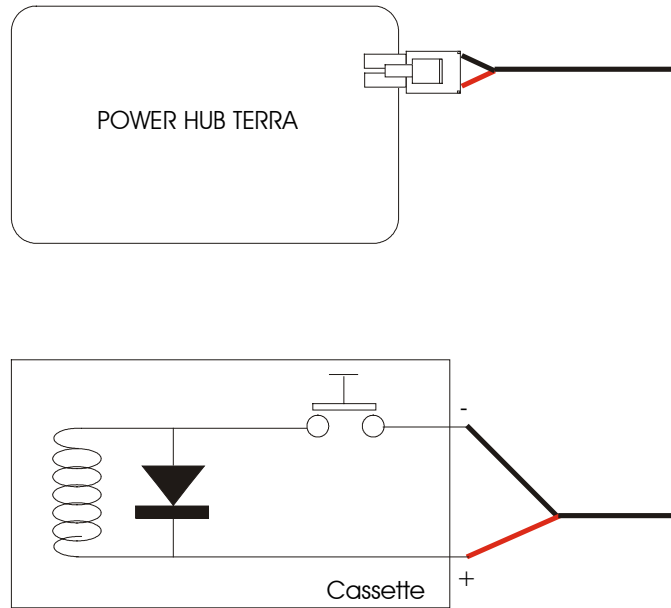

Figure 5 "Solution 1
- Install a Zener interference inverter diode (the so-called flywheel diode) in parallel to the relay of the box as in Figure 5;